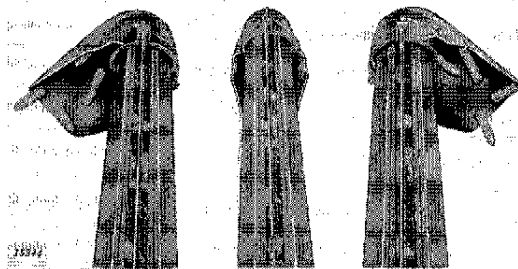

*Figure 7*
**Husk Conveyors (Figure 7).**